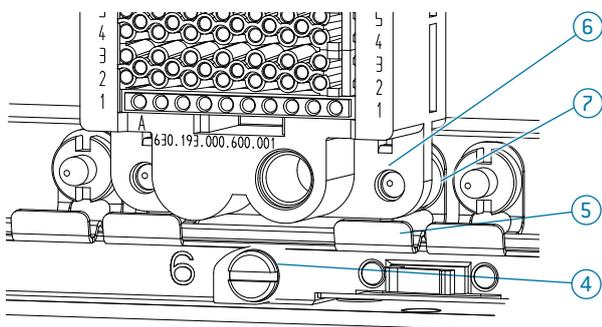
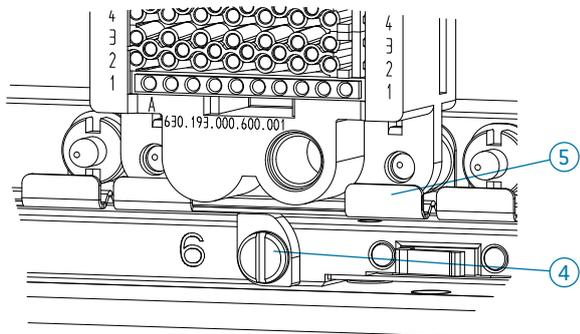

Fig. 70
Fig. 71
- ▶ To insert a connector, undo the top and bottom eccentric screws (4) at the relevant slot. Do this by turning the eccentric screw counterclockwise by 90° (Fig. 70).
- ▶ Make sure the edge with the two guide bushings (1) is at the top.
- ▶ Insert the connector (3) into the slot. Do this by fitting the holes in the frame (6) onto the centering pins (7).
- ▶ Turn the top and bottom eccentric screws clockwise by 90° to close them. The spring plate of the bracket (5) moves into the locking position when the eccentric screw (4) is turned. This fixes the connector into position at (4) and (5) (Fig. 71).
- ▶ Please use an appropriate cable length for the cable harness of the connectors (3). To remove the connectors (3) it is necessary to pull these to the front, turn it slightly and push the connector through the receiver.